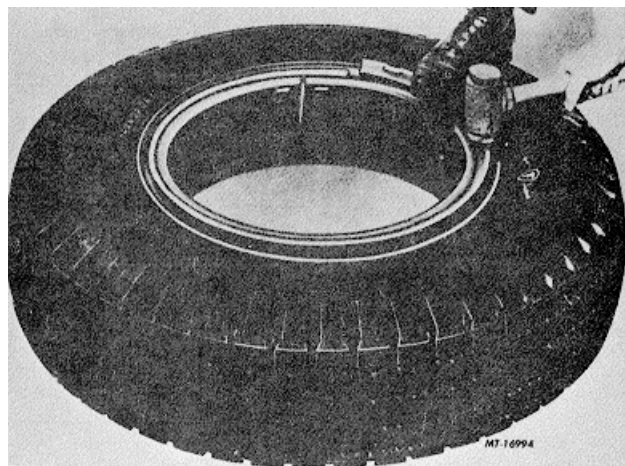

Fig. 48
4. Continue hammering around rim while holding ring with foot until entire ring is seated (Fig. 48).